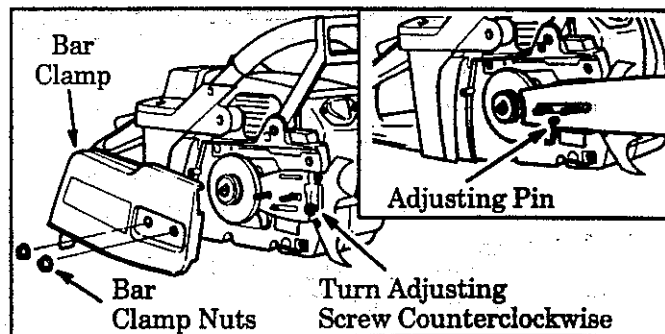

Figure 7
- Set the saw upright on a flat surface. Figure 7.
- Turn the adjusting screw counterclockwise with a standard screwdriver to move the adjusting pin almost as far as it will go to the rear. Figure 7.
- Mount the guide bar with the slotted end over the mounting bolts and the small adjusting pin through the small hole in the bar. Figure 7 (inset).